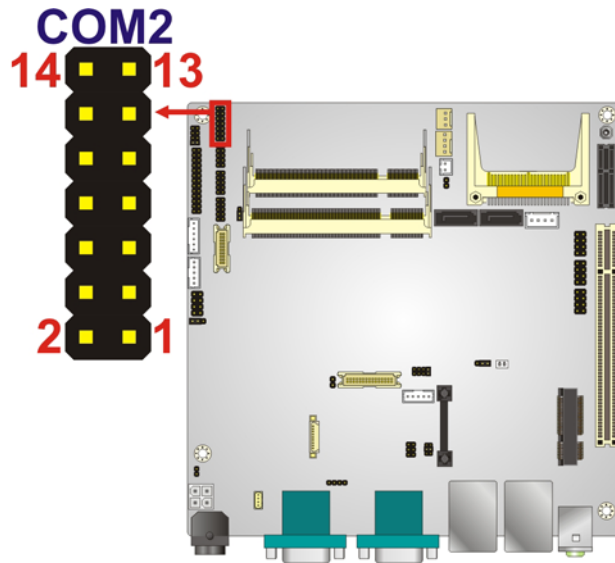

Figure 3-22: Serial Port (COM2) Connector Location
- CN Location:** See Figure 3-22